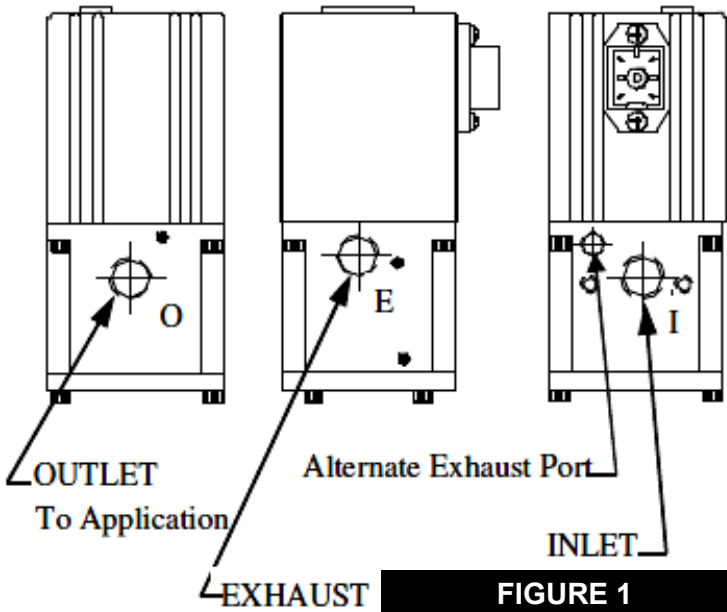

FIGURE 1
3. A 1/16" plug is supplied with the valve. It can be used to plug the "Alternate Exhaust Port" if the exhaust media should be captured or when the valve is used for vacuum or vacuum through positive pressure control. (See Figure 1 for port location.)
1. Connect supply pressure to the "I" port (Figure 1) not to exceed rated supply pressure. (See TABLE 1)
2. Connect the outlet "O" port (Figure 1) to the device being controlled.